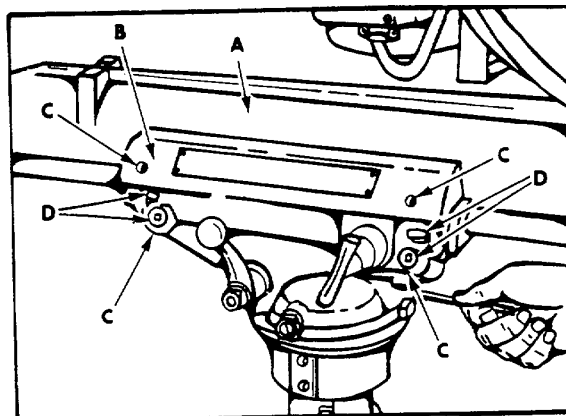

Figure 15
The cradle (B) fig. 15, is equipped with eight ball bearings placed on an eccentric to permit take-up of wear between the ram (A) and cradle (B), and also to insure that the ram travel is parallel with the table surface. If an adjustment is ever necessary, loosen the four set screws (C) fig. 15, located above and below the four adjusting plugs (O). Four additional set screws and adjusting plugs are also located on the other end of the cradle. Adjustment is made by tightening or loosening the adjusting plugs (D). NOTE: This adjustment has been made at the factory and should not be disturbed unless absolutely necessary.